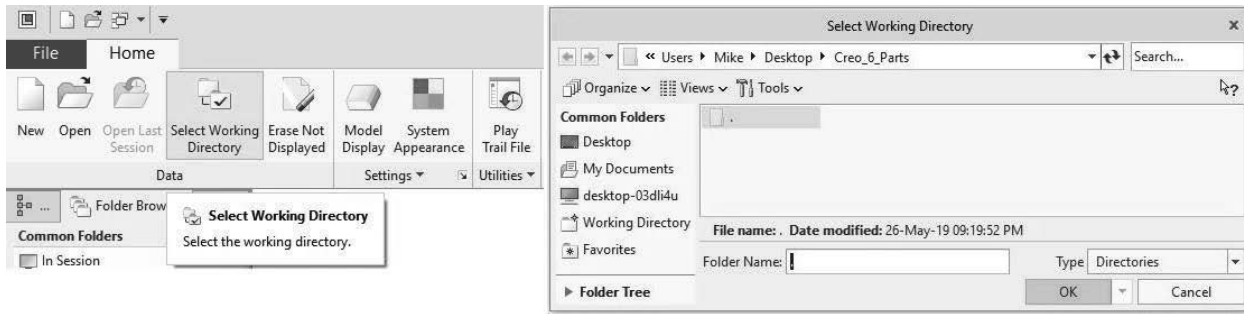

Figure 3-46 Set Working Directory
- Step 2:** Set your working directory by *selecting* the **Select Working Directory** icon in the Home ribbon. Locate your working directory, and then *pick* **OK**. See Figure 3-46.